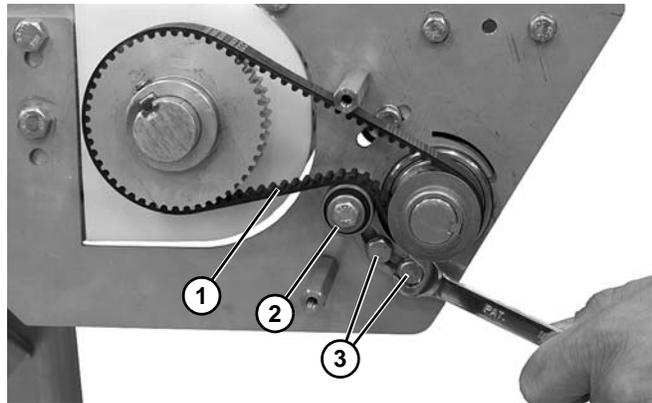

Figure 77
12. Route and install belt (Figure 77, item 1) as shown. Press up on tensioner (Figure 77, item 2) and tighten two hex head screws (Figure 77, item 3).